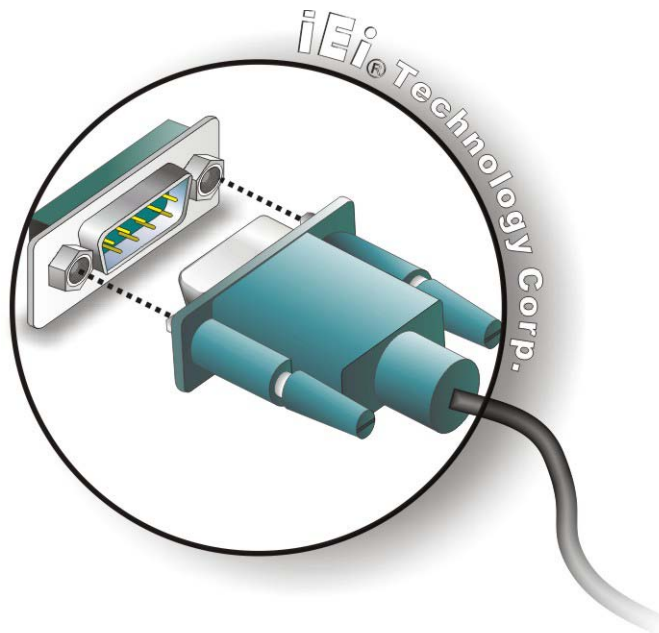

Figure 4-13: Serial Device Connector
Step 2: Insert the serial connector. Insert the DB-9 connector of a serial device into the DB-9 connector on the external peripheral interface. See **Figure 4-13**.